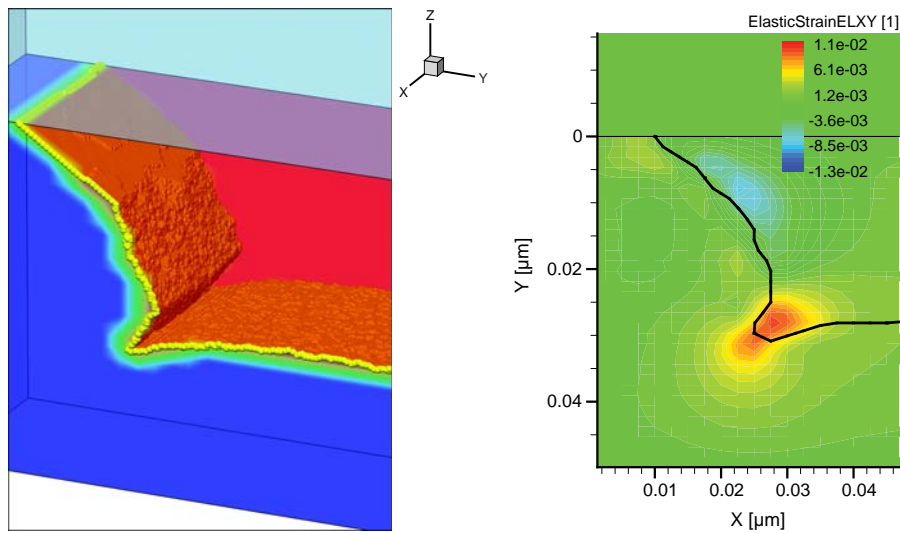

Figure 61 Recrystallization of a rectangular-shaped amorphous region using the LKMC model in Sentaurus Process KMC
The correction for shear strain,  $(|\epsilon_{xy}| + |\epsilon_{xz}| + |\epsilon_{yz}|)\lambda$ , is unique to this model. Its inclusion allows the LKMC model to successfully simulate the evolution of line-shaped amorphized regions. The experimental rate at the corners of line-shaped amorphized regions is very small, producing a pinching of the SPER interface at the corners [34]. This can be simulated with the inclusion of this shear stress term [32]. The shear strain is generated during amorphization due to the different density of the amorphous phase. The expansion of the amorphous phase is not possible in embedded amorphous regions. The compression of the amorphous phase leads to a sharp gradient of shear stress at the corners. The model uses the shear strain to simulate the anomalous regrowth patterns and facet formation experimentally seen in rectangular-shaped amorphized regions, as shown in Figure 61 on page 454.
Figure 61 (left) shows the distribution of lattice atoms at the amorphous interface side. A (111) plane, featuring a small nano-island, can be observed close to the interface. The trench formed at the corner is due to the perturbation introduced by shear strain. Figure 61 (right) shows the xy shear strain distribution; its maximum intensity occurs at the corner.